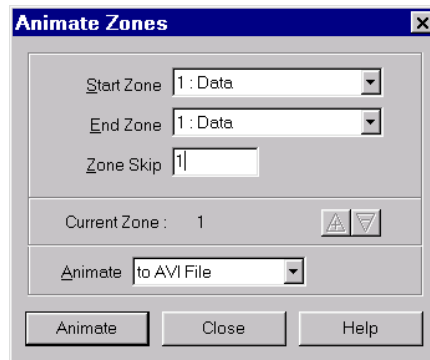

Figure 30-1. The Animate Zones dialog.
1. From the Tools menu, choose Animate, then choose Zones. The Animate Zones dialog appears as shown in Figure 30-1.